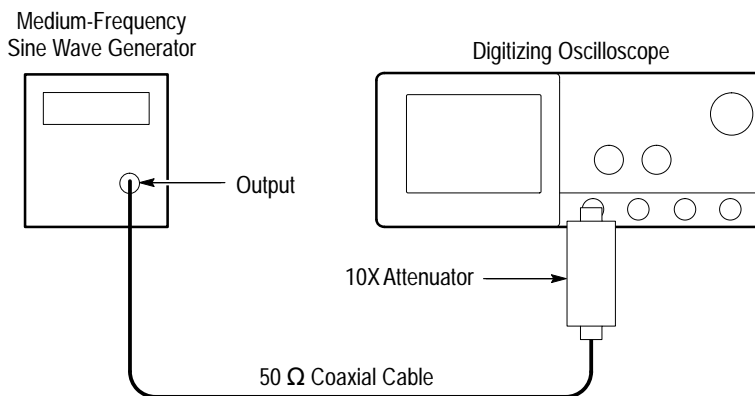

Figure 1–13: Initial Test Hookup
- c. *Hook up the test-signal source:* Connect the output of a medium-frequency leveled sine wave generator (Item 11) to CH 1. Do this through a 50 Ω precision coaxial cable, followed by a 10X attenuator. See Figure 1–13.
- c. *Set upper and lower limits that ensure triggering:* See Figure 1–14.